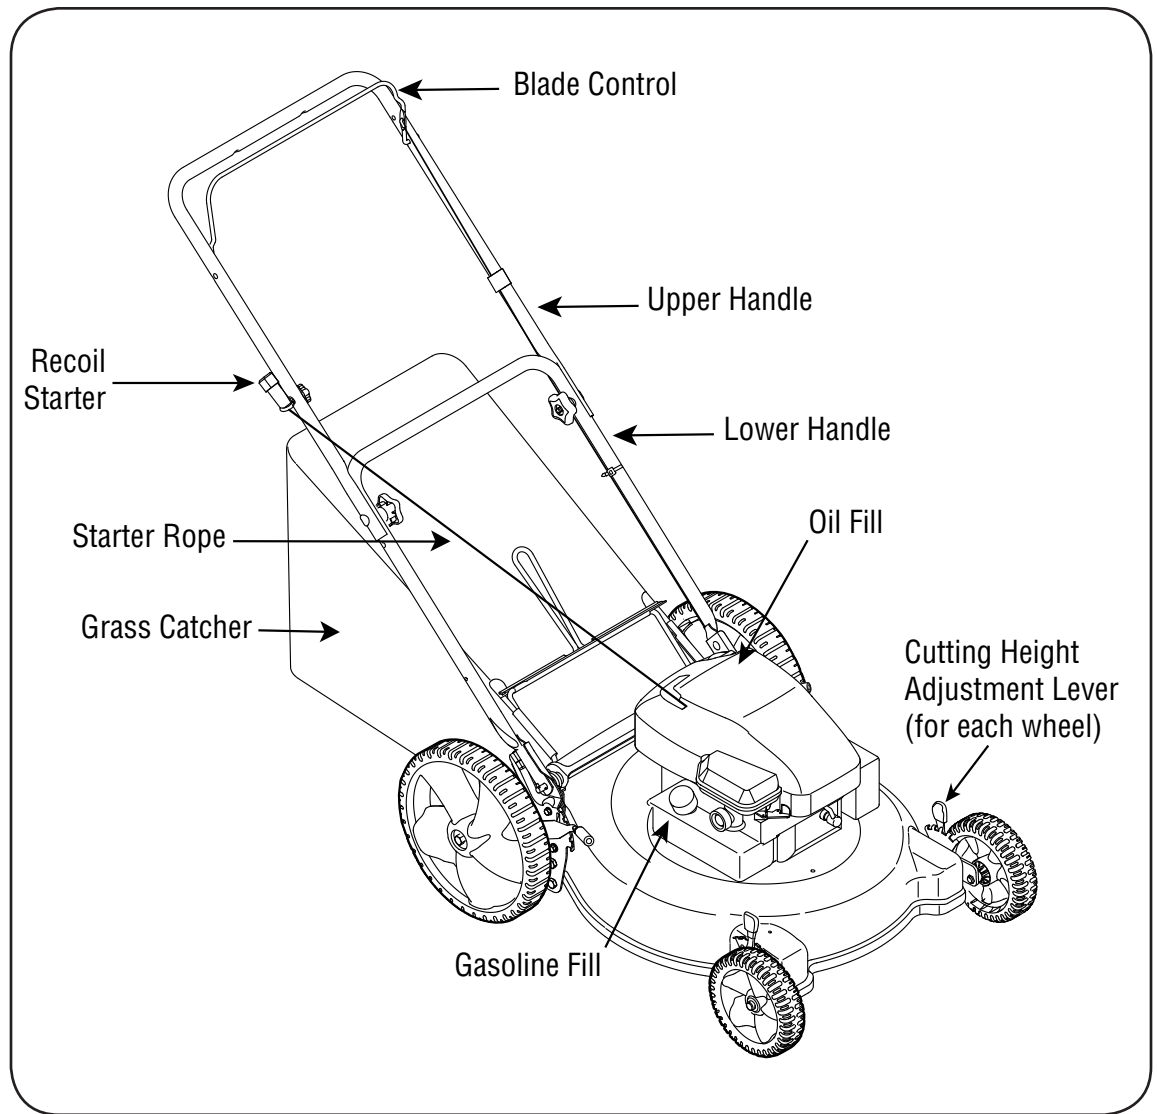

Figure 1
1. Check oil level and add oil if necessary. Follow engine manual for this. See Figure 1 above for location of the oil fill.
2. Service the engine with gasoline as instructed in the engine manual. See Figure 1 above for location of gas fill.